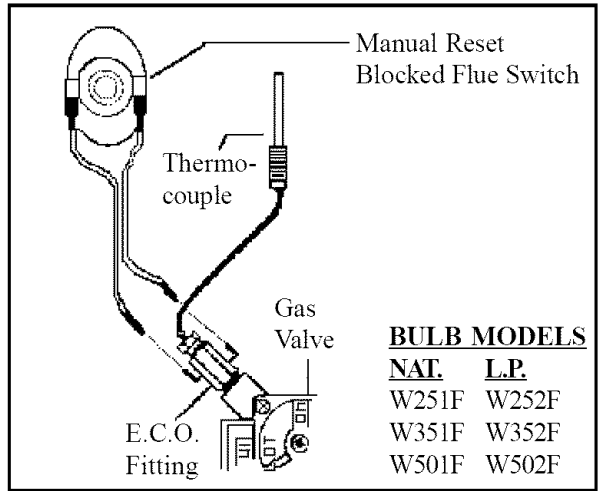
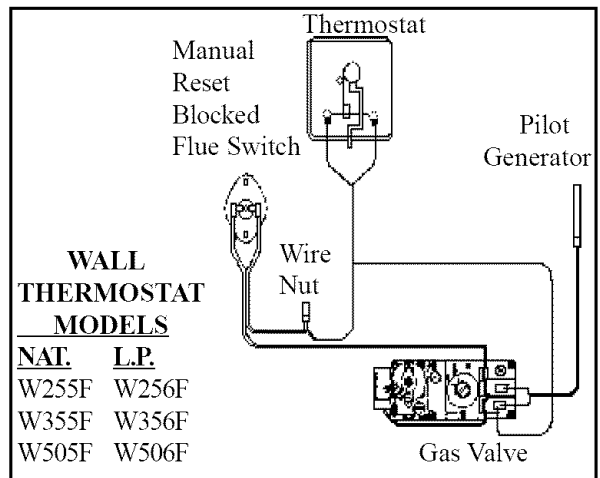

FIGURE 1
FIGURE 2
**STEP 2.** Cut out an opening between the studs of 14-3/8" x 66-1/2" above the floor plate. Embed the rear flange of the channel on top of header into either the drywall or the plastered wall. This provides part of the required fire stop. Square up and nail the header in place with the top front of header located 65-3/4" above floor plate. (See arrow on right side of header and Figure 1, 5A and 5B on Page 7).
**STEP 3.** Rough in 1/2" gas supply on center line of left stud either 4" above top of floor plate or 4" to right of left stud through floor plate. See Figure 1 located on Page 7.
**YOUR FURNACE MAY BE EQUIPPED WITH EITHER A WALL THERMOSTAT (Figure 2) OR SNAP-BULB, BUILT-IN THERMOSTAT (Figure 1) CONTROL. CHECK THE CONTROL ASSEMBLY TO DETERMINE WHICH WIRING EXAMPLE TO USE.**